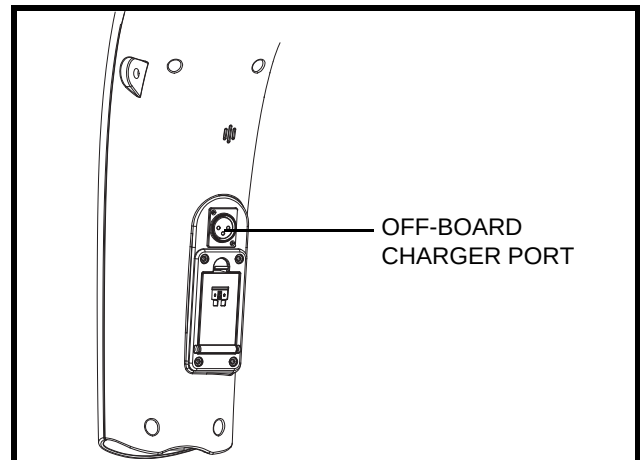

Figure 6. Off-board Charger Port (Tiller Mounted)
The off-board charger power cord plugs into this port during battery charging. The off-board charger port will be located on the tiller. **See figure 6.**
4. Plug the 3-pin charger power cord into the off-board charger port. **See figures 6 and 12.**